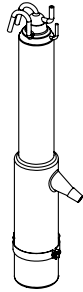

Fig 14.2
2. Secondary Boiler Condenser (*fig. 14.2*).
3. Remove the Secondary Boiler from Accessories Box 2. Inspect for any damage before proceeding (fig. 14.2).